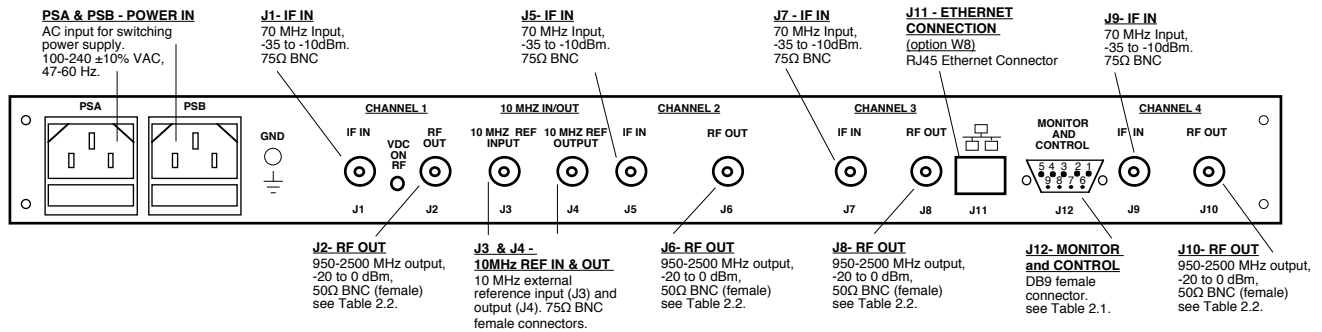

FIGURE 2.2 2415-x0925 Rear Panel I/Os
Figure 2.2 shows the input and output connectors on the rear panel.
1. Connect a -35 dBm to -10 dBm signal to IF IN, for the designated channel (ie: J1, J5, J7, J9), (Figure 2.2).
2. Connect the RF OUT, for the designated channel (ie: J2, J6, J8, J10), to the external equipment, (Figure 2.2).